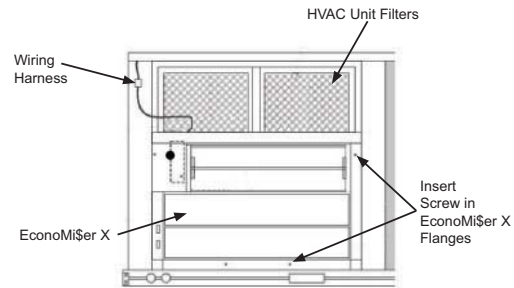

Fig. 28 - EconoMi\$er X Installed in HVAC Unit
5. Set the EconoMi\$er X upright (See Fig. 28).
7. Secure the EconoMi\$er X mounting flanges to the unit with the screws provided (See Fig. 28).